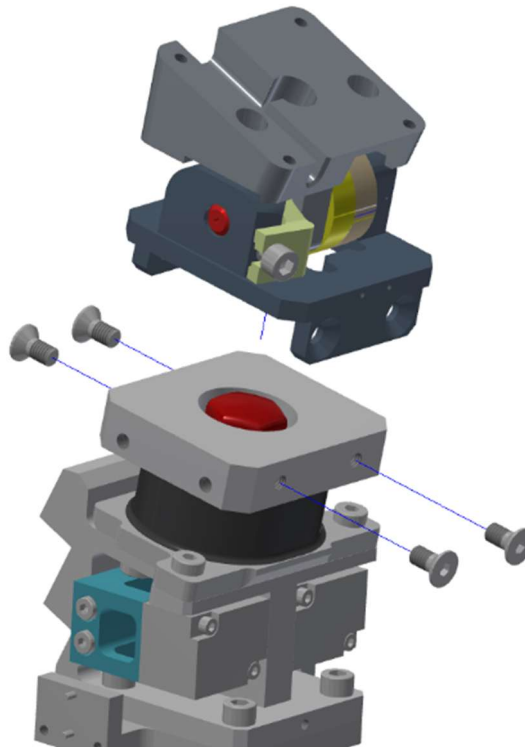

Figure 6-53. Neck Posture Adjustment Assembly (474-3050) assembled to Upper Spine Assembly (474-3240)
- 6.3.22 Attach the Neck Posture Adjustment Assembly (474-3050) to the Upper Spine Assembly (474-3240) using four M6 X 1 X 12 LG. FHCS (Figure 6-53). The pitch change mechanism must be oriented with the adjustment wedge (474-3052) toward the front of the dummy. You may need to apply pressure to the top of the neck posture adjustment assembly to tighten the bolts because of the red vinyl cap.